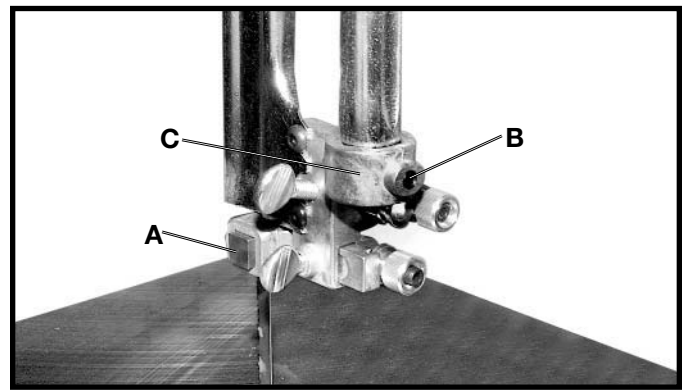

Fig. 34
3. Check the upper blade guide assembly. The blade guides (A) Fig. 34 should be parallel to the blade. To adjust, loosen the screw (B) and rotate the complete guide assembly (C). When the blade guides are parallel with the blade, tighten the screw (B).